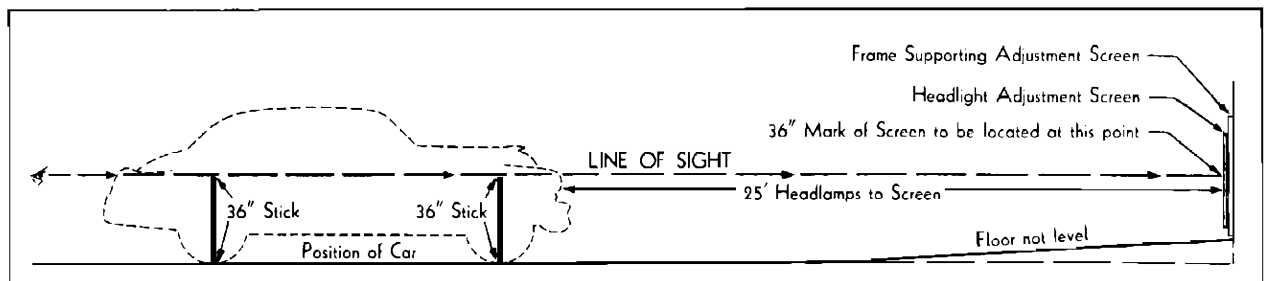

Fig. 15-4 Locating Headlamp Aiming Screen
4. Cut two sticks to "A" length. Fig. 15-4.
5. Sight over sticks as shown in Fig. 15-4 to locate headlamp center level on screen.